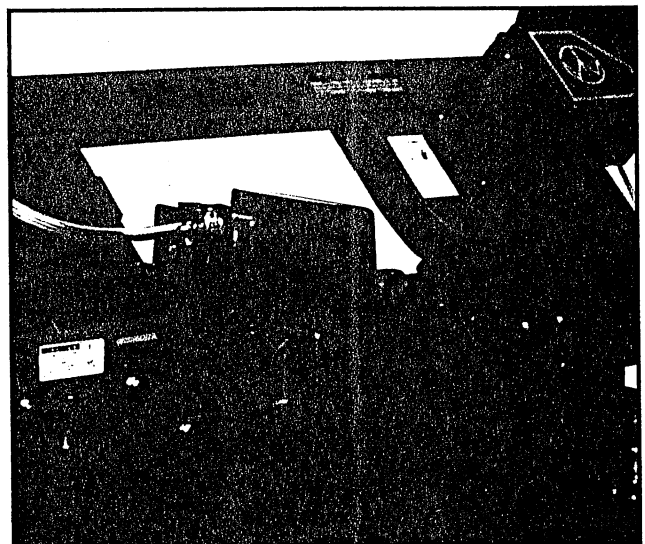

Fig. 4
2. Loosen knob (A, Fig. 4) and Knob (B). Slide blade guide assemblies as close as possible to the material without interfering with the cut.
3. Tighten knob (A) and knob (B) and connect machine to the power source.